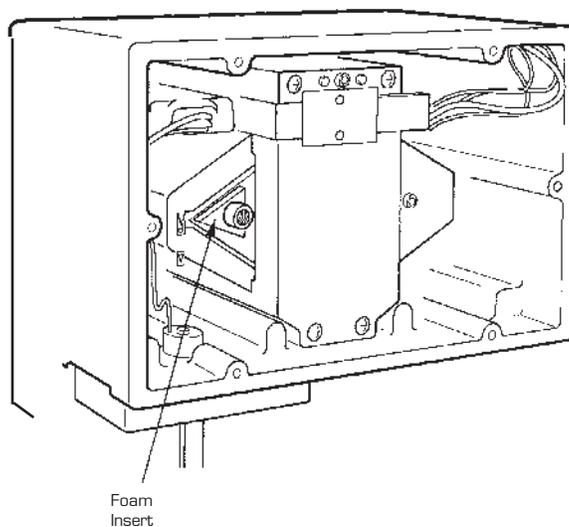

Figure 2.12
4. Using tweezers, remove the foam insert from around the screw hole (Figure 2.12):